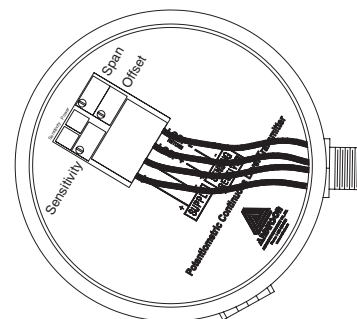

Figure 2
- Observe red LED labeled SENSITIVITY (see Fig. 2 LN Sensitivity Table).